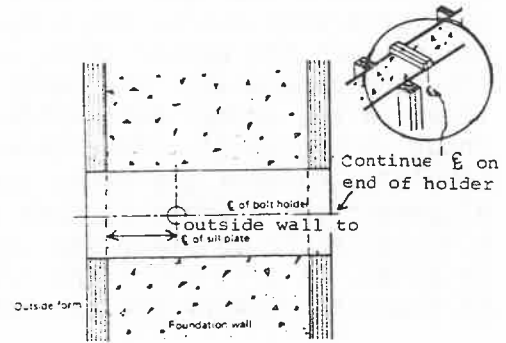
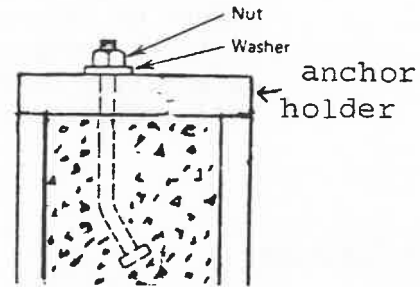

Figure 34
Figure 35
Check the working drawings for the dimension from the outer edge of the foundation wall to the center line of the sill plate and square a line across the bolt holder. Also make a center line lengthwise on the bolt holder and down the ends as shown in Figure 34. Drill a hole $1/16"$ larger in diameter than the anchor bolt where the two (2) center lines intersect through the anchor bolt holder. Insert an anchor bolt with the threaded end up. Put a washer and nut on the bolt and adjust the nut to leave about three threads showing on the top. See Figure 35.
Attach the anchor bolt holders to the forms with duplex nails by matching up the center lines on the form panels with the center lines on the anchor bolt holders as shown in Figure 34. After this is complete, recheck the forms for alignment and plumbness. Make sure all bracing is in place and securely fastened. At this point the formwork is ready to receive the concrete.